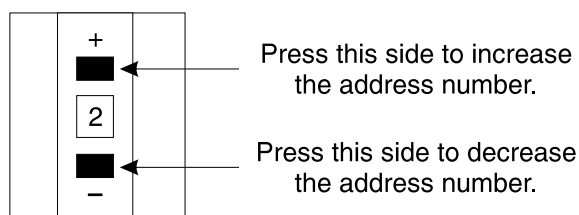

Figure D-41: Setting the SCSI ID/Target Address
1. Locate the target address switch on the rear panel of the SCSI device (see Figure D-41).